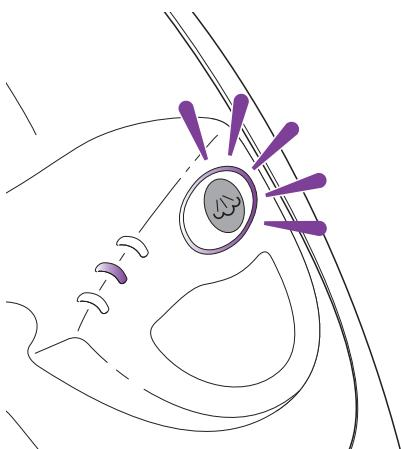

fig. 8
- 2 The **ON/STEAM** button will be blue. If the light does not turn on, reference the troubleshooting section on page 17. (fig. 8)